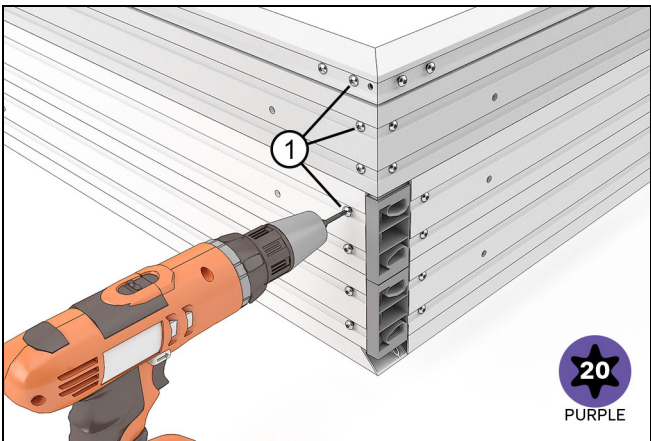

Figure 45
4. Use the #8x 1/2" screws to fasten the head jamb to the key. See Figure 45.